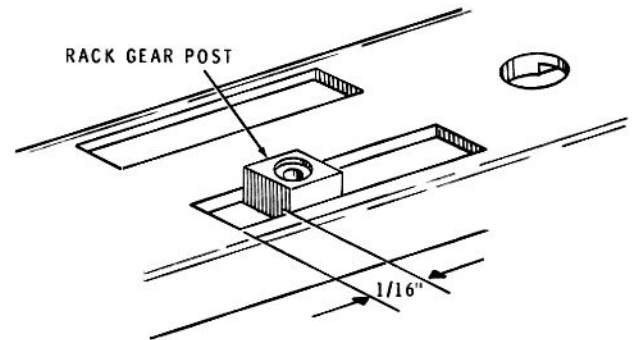

Figure 3-8
3. Operate the proper stick slowly through its entire range. Be sure the Trim Tab is in the center position. The rack gear posts on the servo should move in each direction. They should move each way until approximately $1/16''$ exists between the leading edge of the rack gear post and the end of the slot in the case top section. See Figure 3-8.